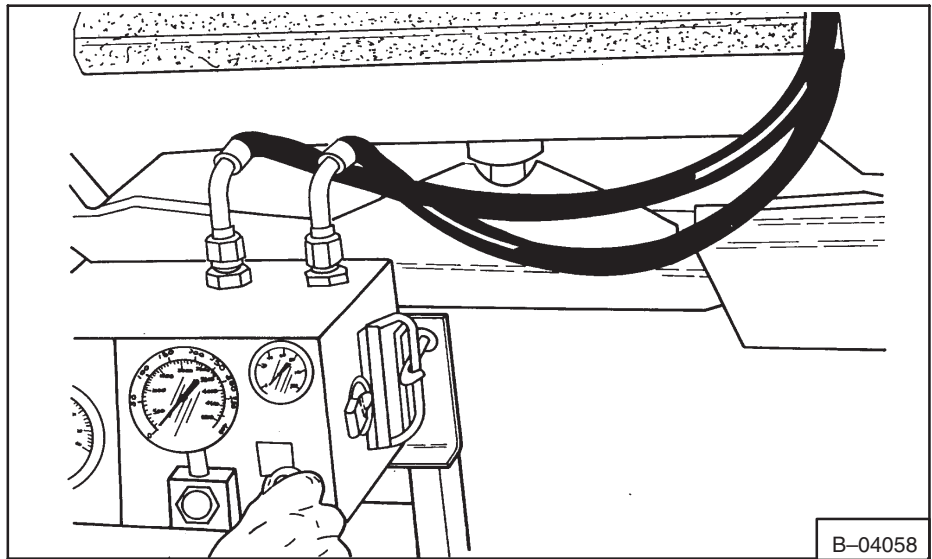

Fig. 2-3 Checking The Relief Valve
3. Connect the male-end quick coupler to the inlet of the tester and the female-end quick coupler to the outlet (Fig. 2-3).